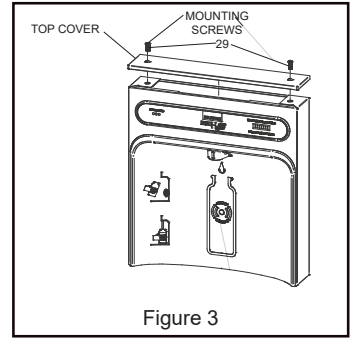

Figure 3
1. Remove two (2) mounting screws with 5/32" (4mm) Allen wrench holding top cover to Bottle Filler (see Fig 3). Remove top cover. Note: Do not discard mounting screws; they will be needed to reinstall top cover.
8. Once Bottle Filler is installed on wall plate tabs, water line, wire(s) and power cord are installed properly, push top of Bottle Filler toward wall and line up top cover two (2) holes.
9. Reinstall Top Cover on Bottle Filler (See Fig. 3) with two mounting screws from step 1 above. Caution: Do not over tighten screws.